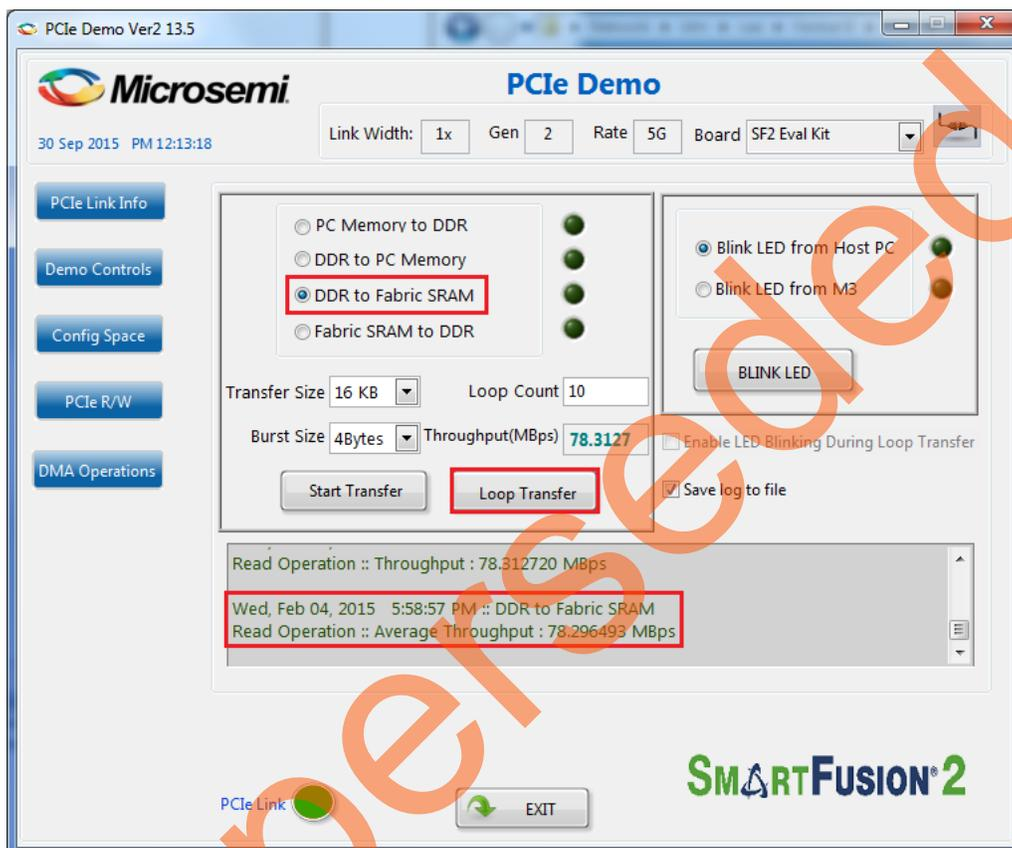

Figure 20 • LPDDR to PC Memory Transfer Throughput
- Enter 10 in the **Loop Count** box and click **Loop Transfer** to perform 10 sequential DMA transactions. The PCIe_Demo window displays the DMA throughput after completion of data transfer. Figure 20 shows the throughput of DMA transactions from host PC to LPDDR. The average throughput is logged and the log file is stored at `C:\PCIe_Demo\DriverInstall` in the host PC.
- Select the type of DMA transfer as LPDDR to **Fabric SRAM**, select any **Transfer Size** and click **Loop Transfer** as shown in Figure 20.